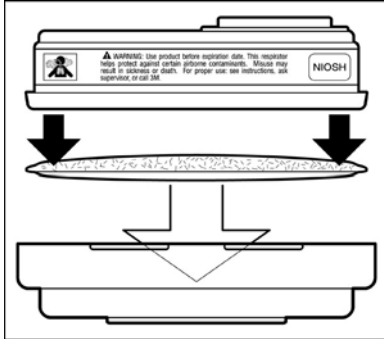

Fig. 3
2. Press cartridge into filter retainer. It should snap securely into filter retainer. When correctly installed, filter should completely cover face of cartridge. (Fig. 3)